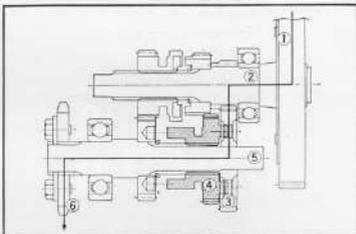

Fig. 3.93 Low gear
2. Operation (C 90)**Low : (Fig. 3.93)**